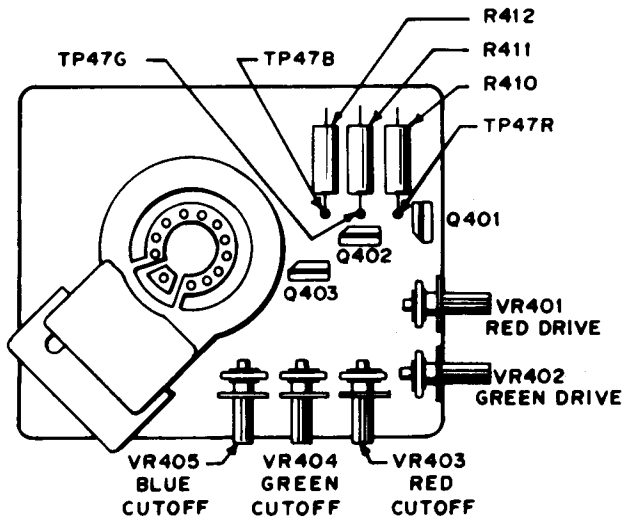

Figure 3 Neck Board—Component Side (With Horizontally Mounted CRT)
- 2.6 Turn the green cutoff control (VR404) on the Neck Board fully clockwise (see Figure 3).